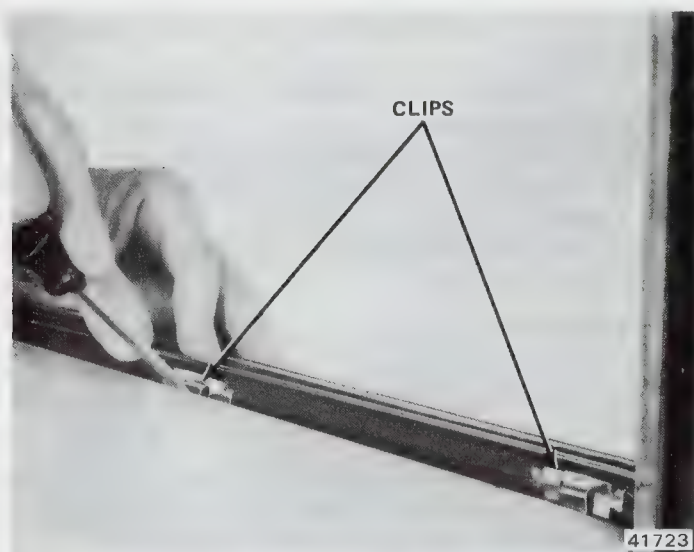

Fig. 3J-55 Clip Removal
(1) Pull weatherstrip from panel at retaining clips.
(2) Insert screwdriver into retaining slots and slightly distort slots (fig. 3J-55).
(3) Lift and remove weatherstrip.